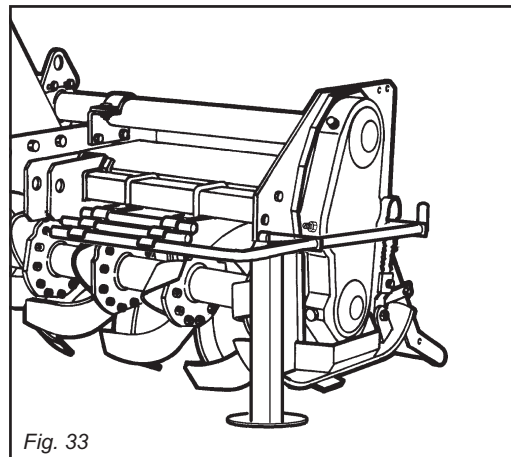

Fig. 33
- 1) Position the support foot as shown in the figure 33.
- 1) Placer le pied d'appui (voir figure 33).